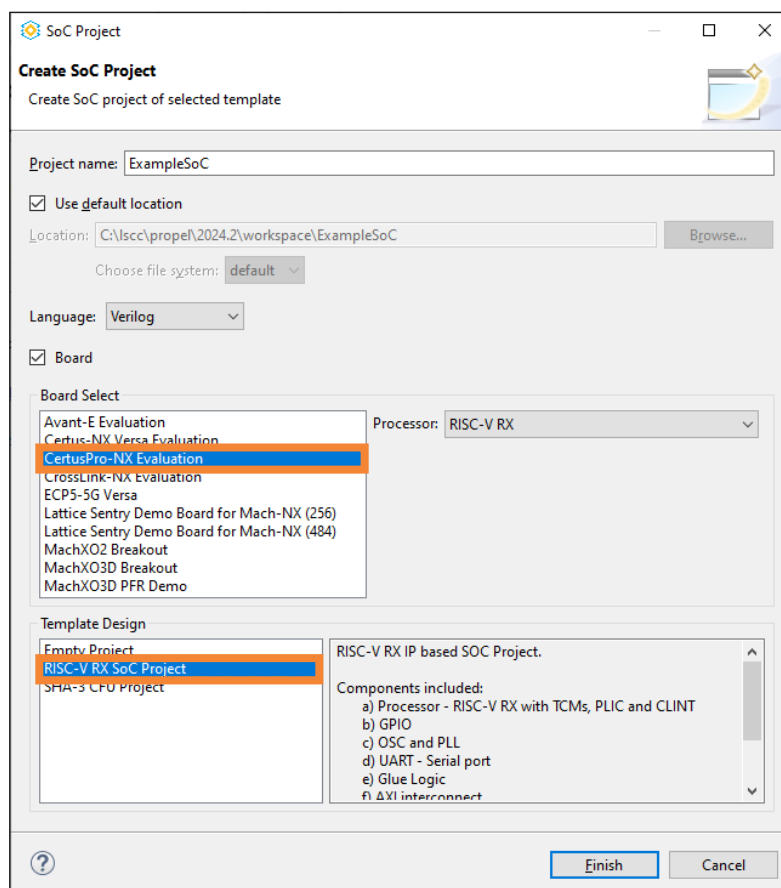

Figure 5.1. Create SoC Project Wizard 2
1. Create RISC-V RX SoC Project with CertusPro-NX Evaluation Board (Figure 5.1). Click **Finish**.
1. Create a RISC-V RX SoC project with the CertusPro-NX Evaluation Board (Figure 5.1). Click **Finish**.